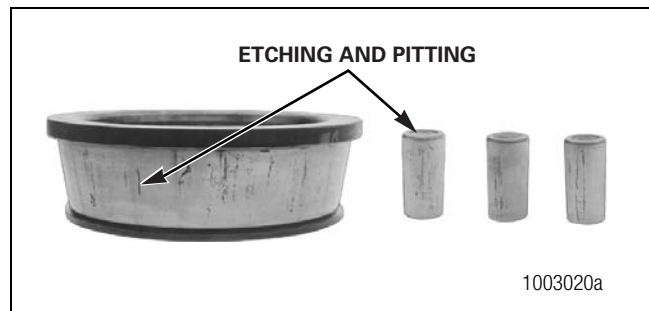

Figure 4.4
- There is damage on the rollers and on the surfaces of the cup and cone inner race that touch the rollers. Figure 4.4.